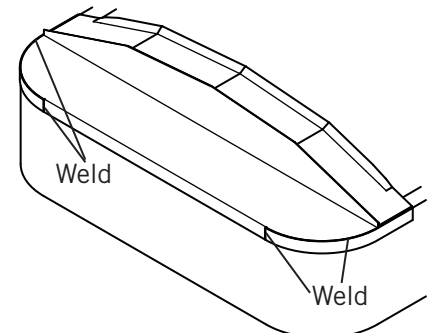

Figure 13
- 5) Figure 13.** Weld both pieces to the front cap.